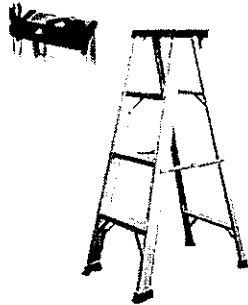

Figure 23: Example of A-shape Aluminum Ladder with 1100 mm height*
- 5.9 A-shape Aluminum ladder with height more than or equal to 1100 mm, 4 steps and tool holder (example in Figure 23) (1 set)